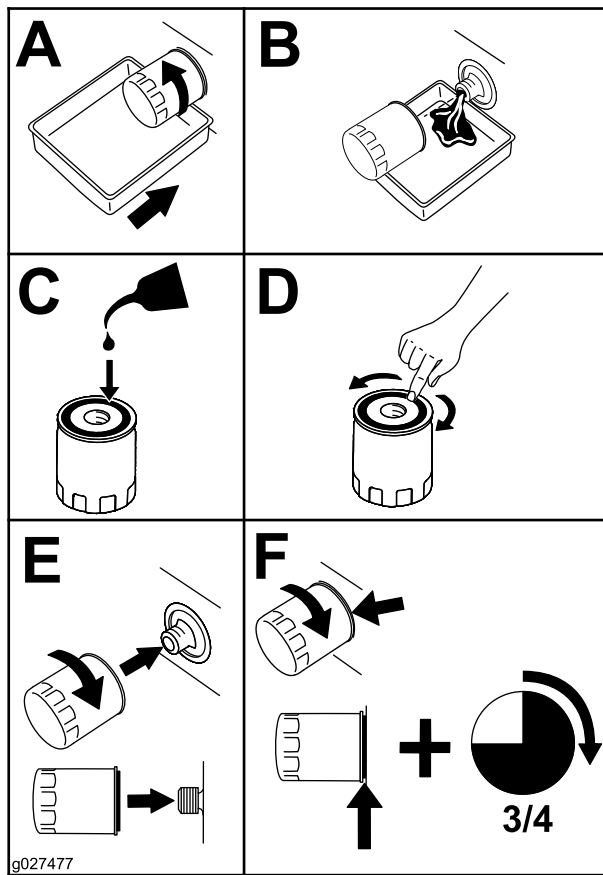

Figure 34
2. Change the engine oil filter (Figure 34).